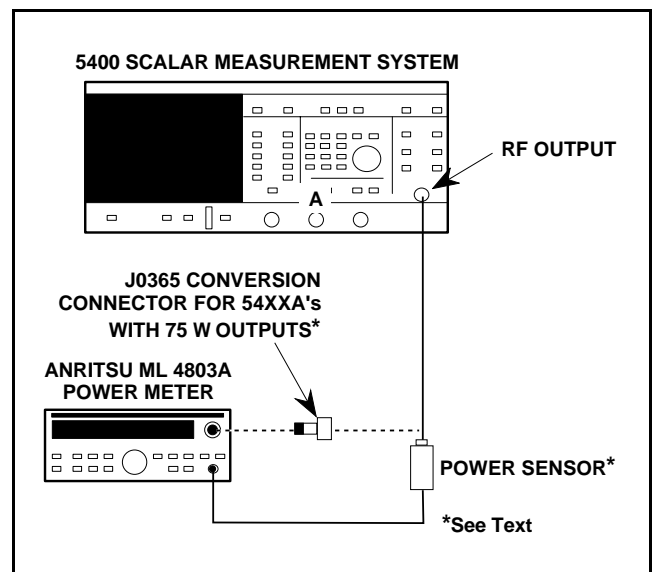

Figure 5-2. Equipment Setup for Power Accuracy/ Flatness Test
2. Set up the equipment as shown in Figure 5-2, and turn the equipment on.